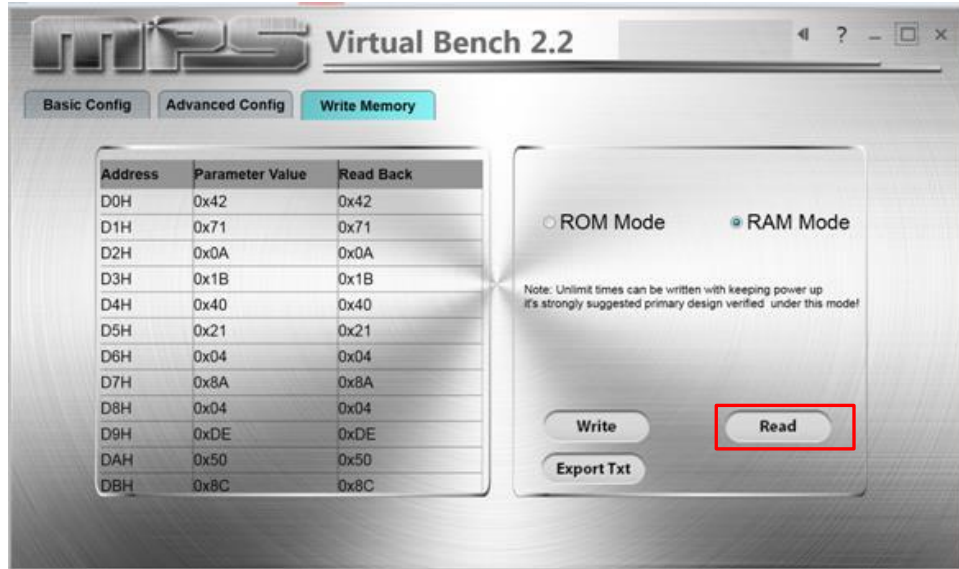

Figure 12: Read Version
5. Click the "Read" button to read back the values (see Figure 12 and Figure 13).